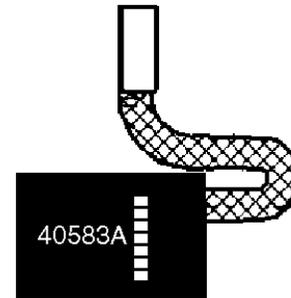

Figure 12
- 2 Inspect the carbon brushes. Replace both brushes if either brush has worn to 3/8" in length, or is worn to the wear indicator. See Figure 12.